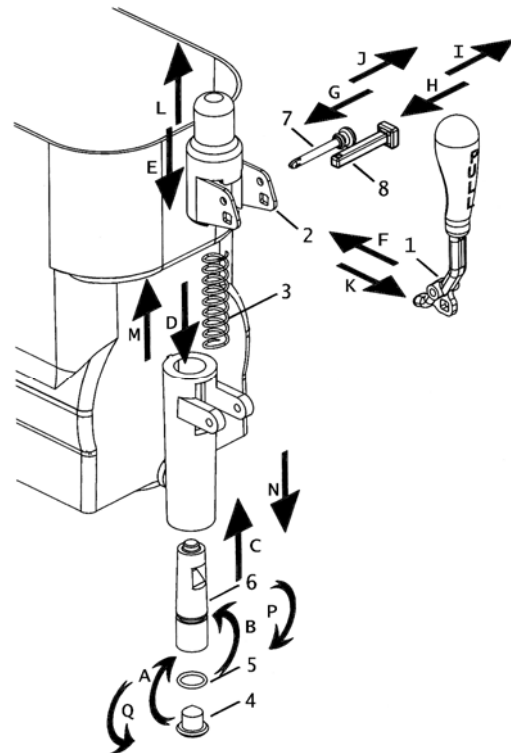
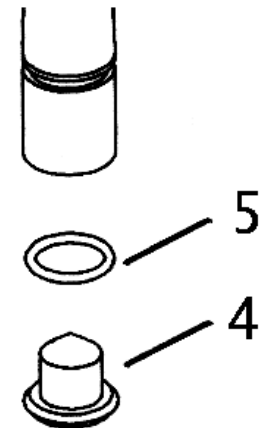

Figure 8
Figure 9
6 CLEANING THE SPIGOT (Fig.8)
2. Reassemble the spigot by reversing the steps that you performed in (**Figure 8**). Lubricate with food grade lubricant parts #4 and #5 (O-ring and Special gasket) (**Figure 9**).